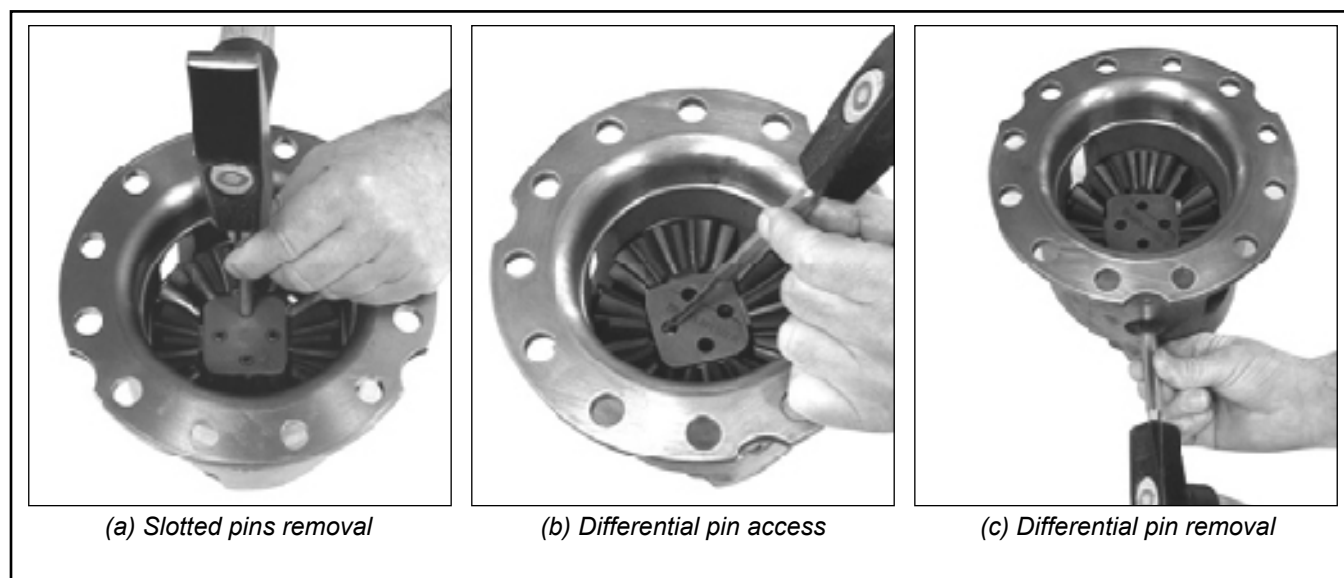

Figure 14 - Differential Carrier Disassembly
2.36. Force the slotted pins out of the cross joint. See Figure 14(a).